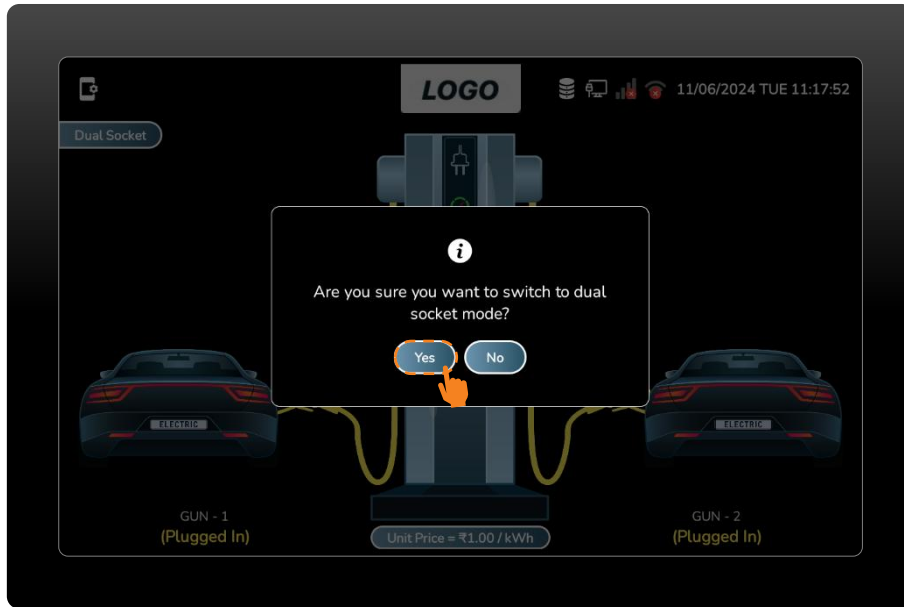

Figure 84 Press the Yes Button to Switch Dual Socket Mode.
- After plugging dual guns to vehicles and pressing the dual socket mode button, the user must provide permission to switch from single to dual socket mode by pressing the yes button. (Figure 84)